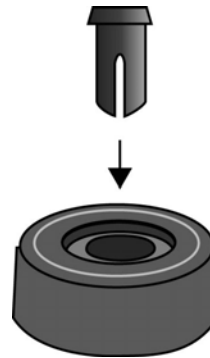

Figure 15. Inset the Rivet Housing into the Bumper Foot
- a. Inset a rivet housing into a bumper foot. Refer to Figure 15.